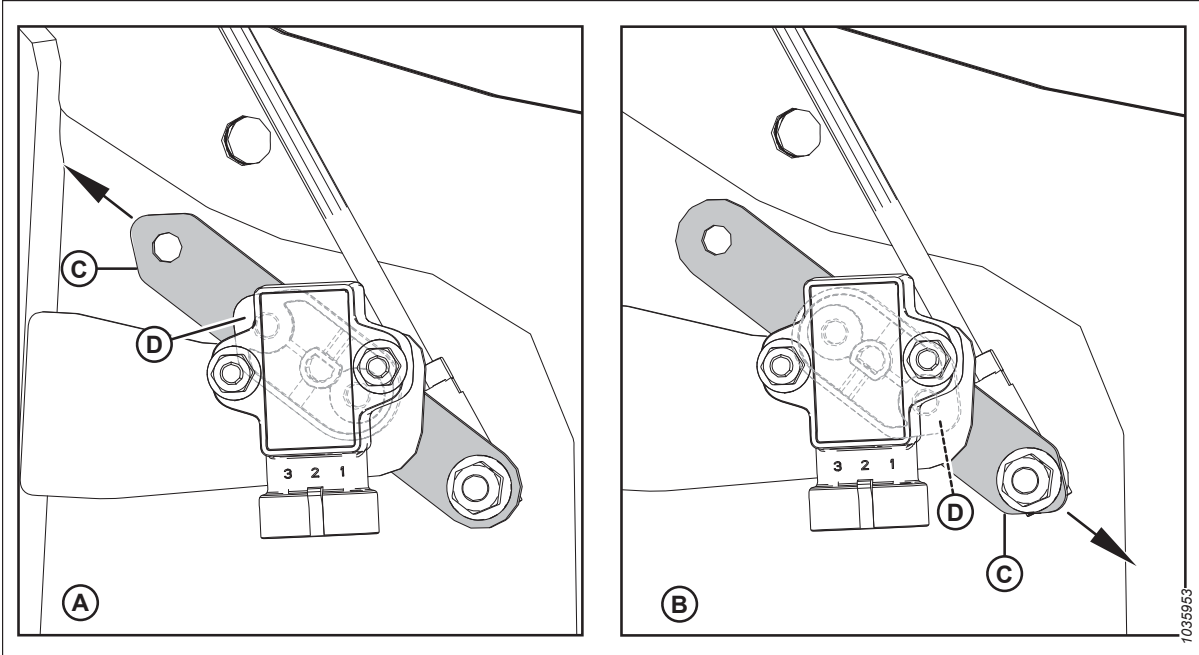

Figure 3.300: Sensor Arm/Pointer Configurations
4. Ensure that sensor arm (C) and pointer (D) are configured properly for the header. For instructions, refer to Figure 3.300, page 220.